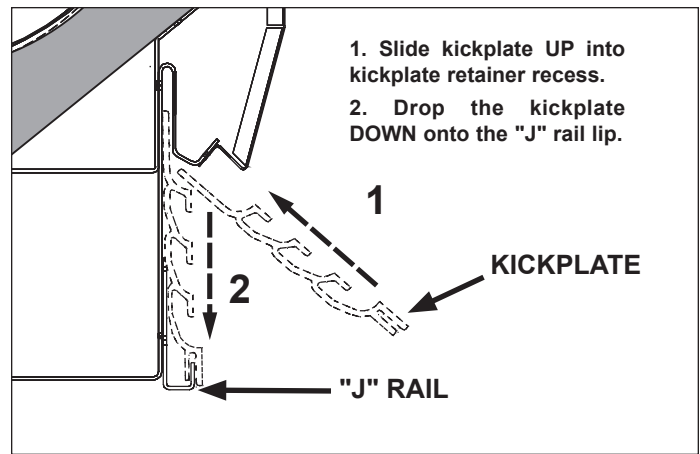

Fig. 3 Kickplate installation
8. Insert top of kickplate into the kickplate retainer. Slide the kickplate up into the retainer, then down onto the "J" rail (Fig. 3). Be certain that the bottom of the kickplate is fitted over extruding "lip" of the "J" rail.